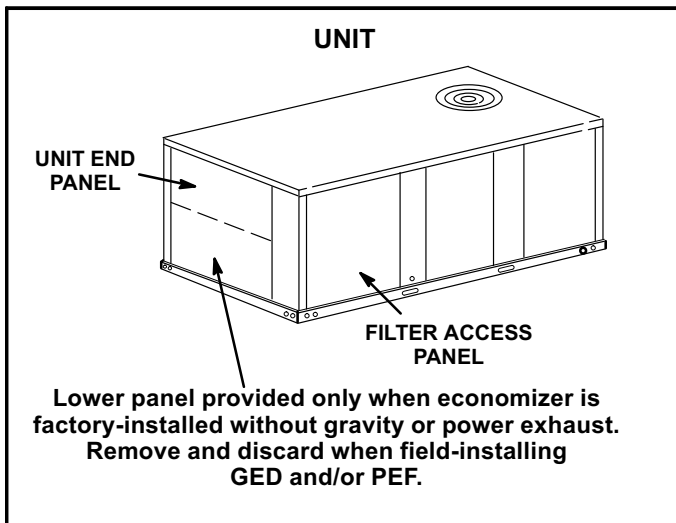

FIGURE 1
- 1- Open unit end panel and filter access panel. See figure 1. When gravity or power exhaust are field-installed, remove and discard the lower panel.